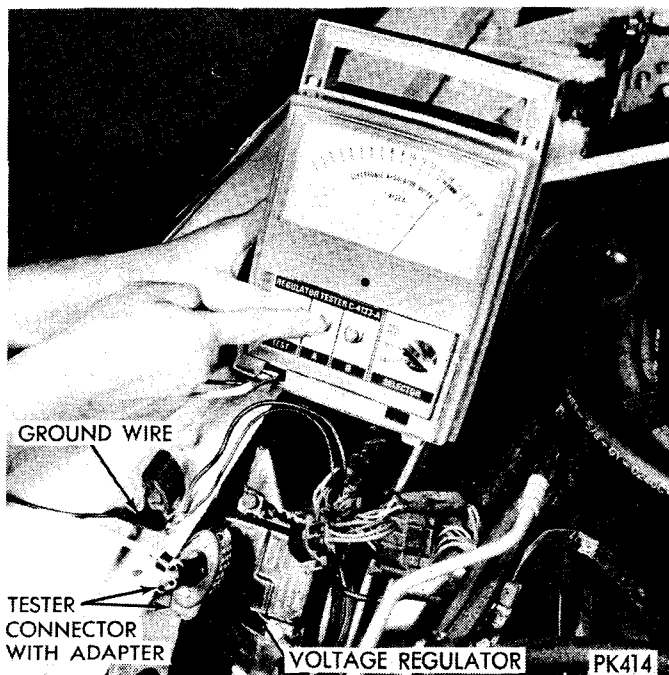

Fig. 10—Voltage Regulator Test (Depressing Test Button and Black Button "A")
(7) While holding the test button in, depress **Black Button** (A) (Fig. 10) the meter reading should remain within the limits of step (6).